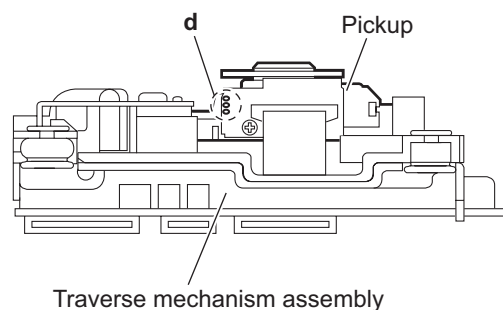

Fig.4
3.2.4 Removing the DVD module board (See Figs.4 and 5)
- (1) From the side of the traverse mechanism assembly, solder the short land sections **d** on the pickup. (See Fig.4.)
- Solder the short land sections **d** on the pickup before disconnecting the card wire from the connector **CN101** on the DVD module board. If the card wire is disconnected without attaching solder, the pickup may be destroyed by static electricity. (See Figs.4 and 5.)
- When attaching the DVD module board, be sure to remove solders from the short land sections **d** after connecting the card wire to the connector **CN101** on the DVD module board. (See Figs.4 and 5.)
(See Figs.4,6 to 8)
- Solder the short land sections **d** on the pickup before disconnecting the card wire from the connector on the pickup. If the card wire is disconnected without attaching solder, the pickup may be destroyed by static electricity. (See Figs.4 and 6.)
- When attaching the pickup, be sure to remove solders from the short land sections **d** after connecting the card wire to the connector on the pickup. (See Figs.4 and 6.)
3.2.6 Attaching the pickup (See Figs.4,6 to 9)
- (4) Remove solders from the short land sections **d** after connecting the card wire to the connector on the pickup. (See Figs.4 and 6.)